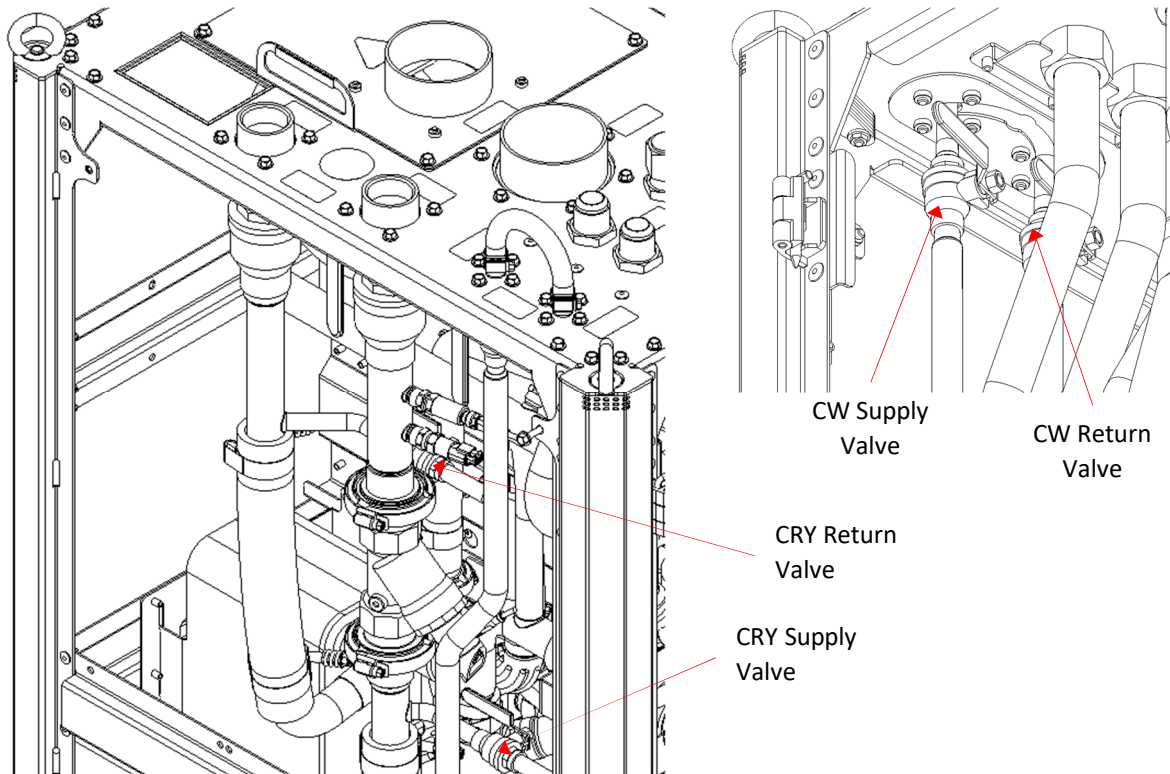

Figure 2-26: Cryogen Compressor Cooling Valves for Adjustment
1. Locate the CRY Supply and Return Valves (refer to Figure 2-26). Open both valves (handle parallel to direction of flow).
2. Locate the CW Supply and Return Valves (refer to Figure 2-26). Ensure both valves are closed (handle perpendicular to direction of flow).